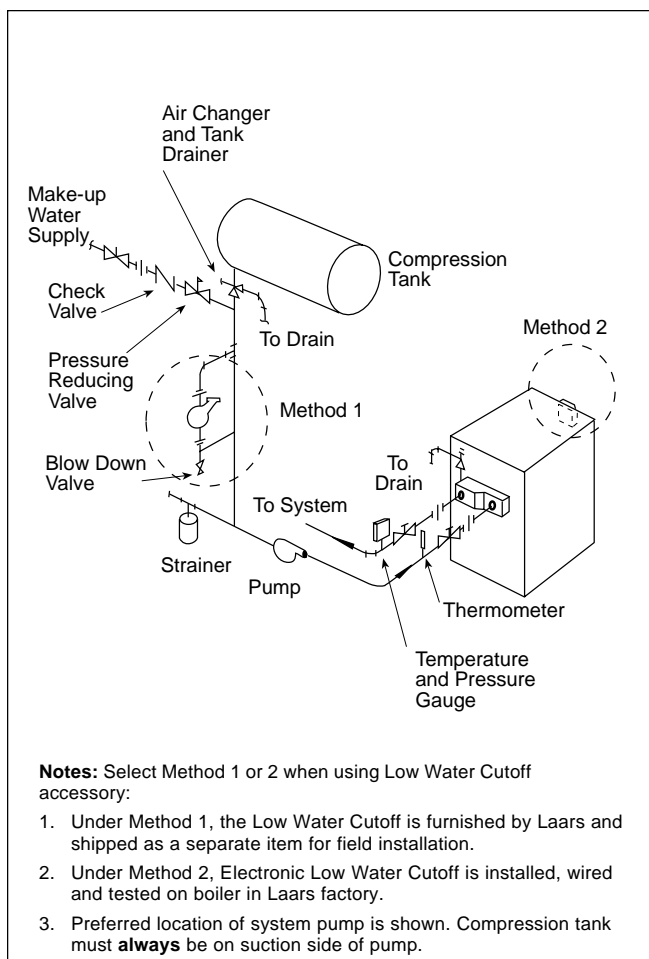

Figure 9. Boiler Piping.
- A boiler installed above radiation level must be provided with a low water cutoff device either as part of the boiler or at the time of boiler installation (see Figure 9).
1. If a strainer is employed in a pressure reducing valve or in the piping, clean it every six (6) months.
2. At start-up and every six (6) months thereafter, the pilot and main burner flame should be observed for proper performance (see Figure 9 and 10; see attached lighting and shutdown instructions for proper pilot flame pattern). If flame has the appearance of “sooting” tips, check for debris near orifices. Call service technician.